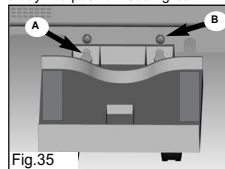

Fig.35
1. Align the holes in the water tank support tray (A) with the screws (B) located at the rear lower section of the unit, push down firmly to lock the tray into position. See Fig. 35